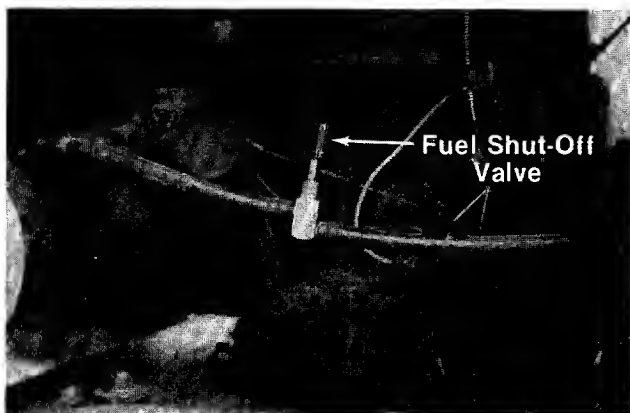

FIGURE 19. FUEL SHUT-OFF VALVE
2. Open the fuel shut-off valve (turn counter-clockwise). See figure 19.